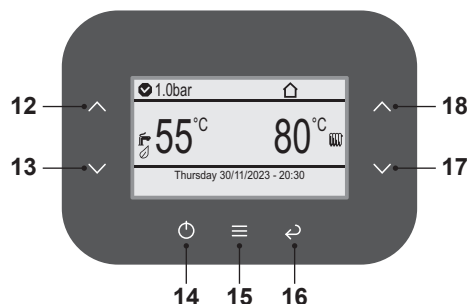
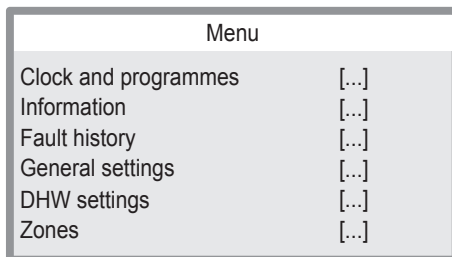
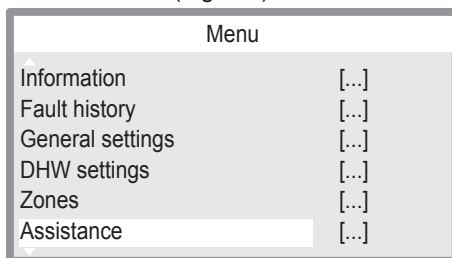
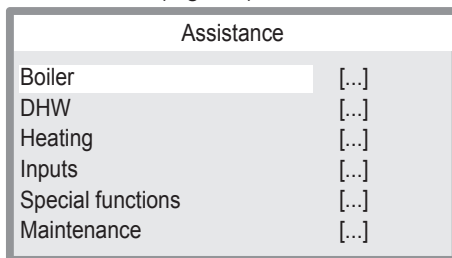

Fig. 9.1
Fig. 9.2
Fig. 9.3
Fig. 9.4
- Press key 15 (Fig. 9.1) to go to the main menu (Fig. 9.2).
- Press key 12 or 13 (Fig. 9.1) to select the desired menu (Fig. 9.3).
- Press key 15 (Fig. 9.1) to access the selected menu (Fig. 9.4).
- Press key 12 or 13 (Fig. 9.1) to select the desired menu from those available (Fig. 9.5).
- Press key 15 (Fig. 9.1) again to highlight the value to be changed.
- Press key 15 (Fig. 9.1) to confirm the change or key 16 to exit without changing the value (return to previous level).